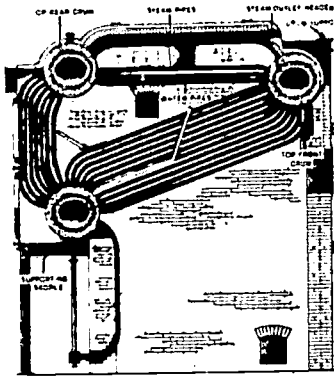

Figure 37. A typical bent-tube boiler.
35. Boilers of the bent-tube type usually have three drums, each the same in diameter but not all set on the same level. The tubes are bent at the ends to enter the drums radially. A typical bent-tube boiler is shown in figure 37. Water enters the top rear drums, passes through the tubes to the bottom drum, and then moves up through the tubes to the top front drum. A mixture of steam and water is discharged into this drum;